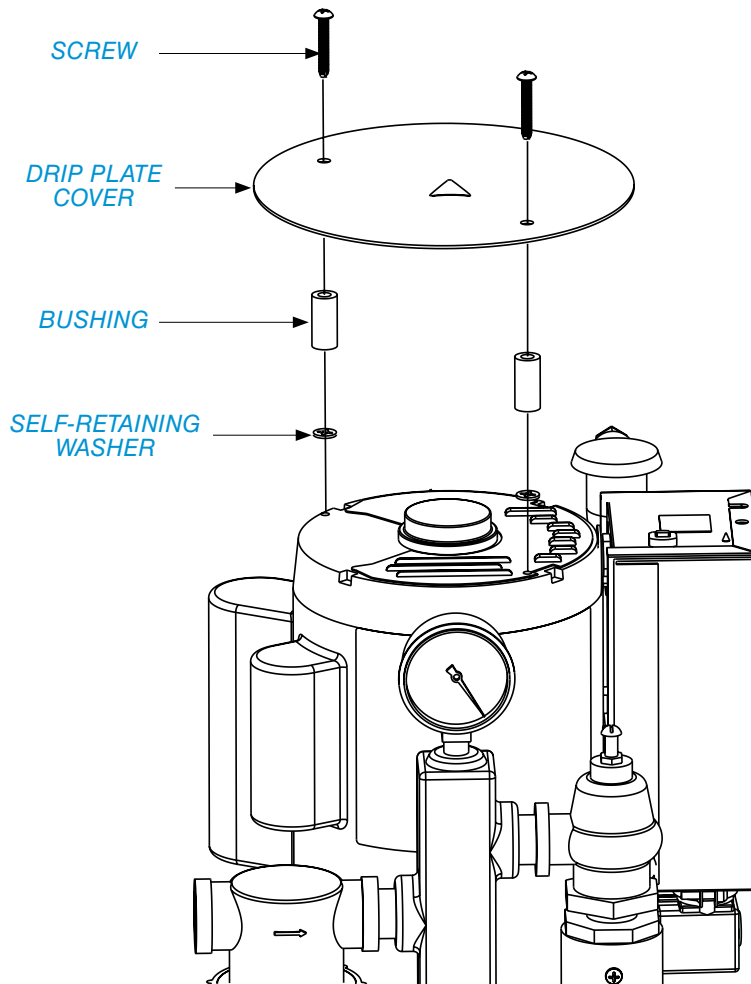

FIGURE 3. DRIP PLATE ASSEMBLY INSTALLATION
2. Place parts in order as shown; insert screws and tighten (*FIGURE 3*).